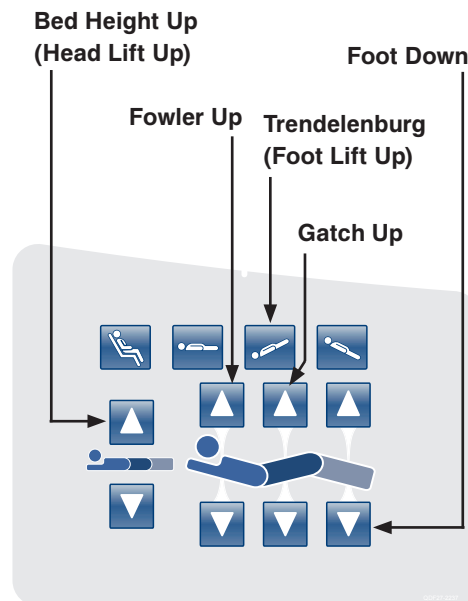

Figure 24: Calibration Complete
28. Place the bed at the highest height by pressing simultaneously the **Trendelenburg (Foot Lift Up)** button and **Bed Height Up (Head Lift Up)** button (see Figure 24).
29. Place the Fowler and Gatch section of the bed at the highest height by first pressing the **Fowler Up** button then the **Gatch Up** button (See Figure 24).
30. Place the foot at the lowest position by pushing the **Foot Down** button until limit is met (see Figure 24) . **CAUTION: The Gatch must be raised to the highest height prior to running the Foot Down or damage could occur.**